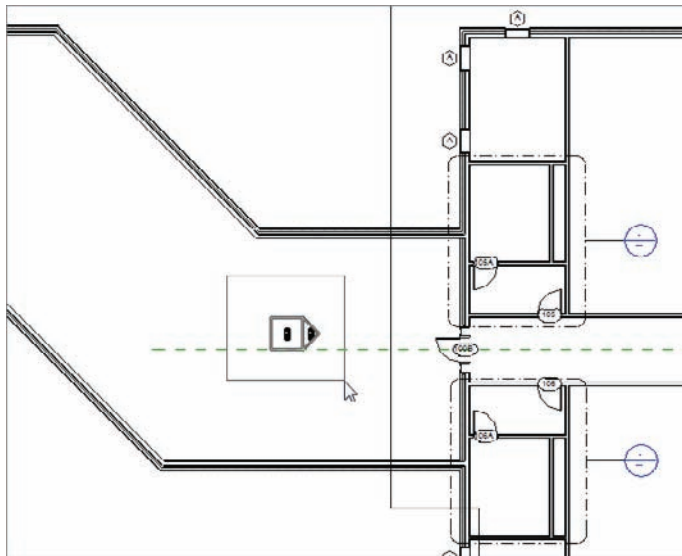

FIGURE 3.74 The elevation marker is right in the way!
I saved the best view for last—or at least the most popular. Elevations are essential for any project—so essential, in fact, that Revit provides four of them before you place a single wall into the model. The four shapes that represent houses that were in the model at the beginning of the book are elevation markers, as shown in Figure 3.74. These markers are typically handy but are most certainly in the way now. The first thing you need to do is to move one of them out of the way. The second thing you need to do is to create a few new ones!
1. Go to the Level 1 floor plan. In the eastern part of the corridor, there is an elevation. Yours may be in a slightly different location than the book's example, but it needs to be moved nonetheless (see Figure 3.74).